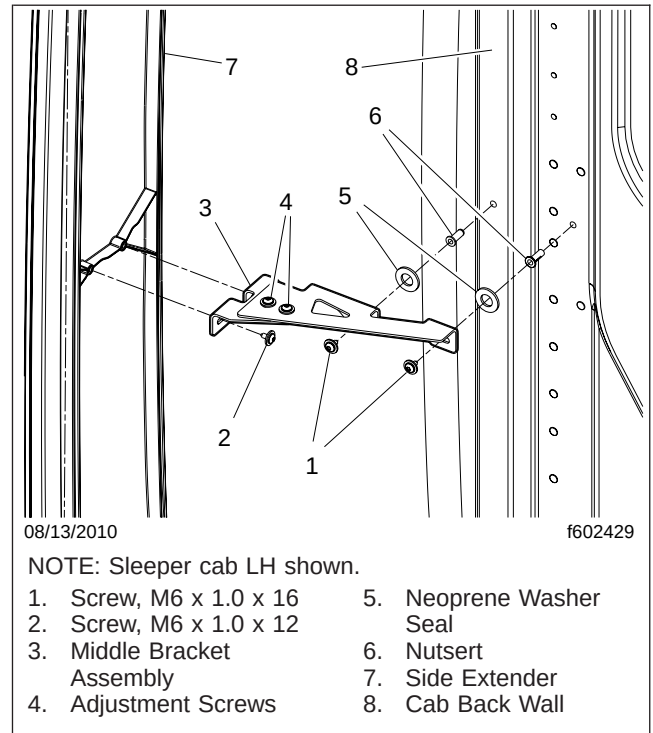

Fig. 2, Middle Bracket Installation (typical)
4. Remove the two screws that attach the side extender to the middle bracket (if equipped). See Fig. 2.
5. Loosen the adjustment screws on the middle bracket. See Fig. 2.